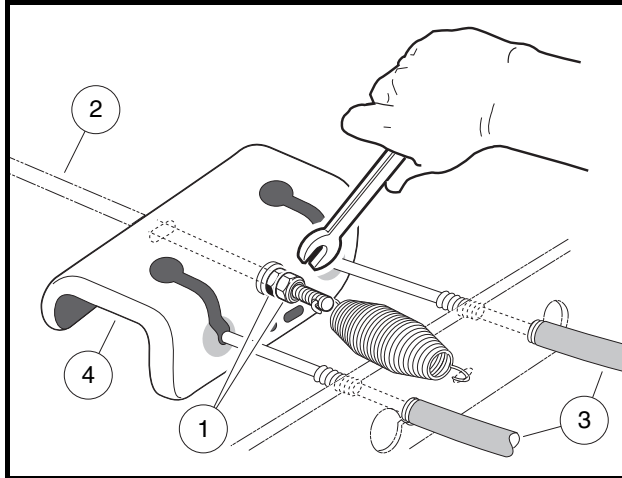

Figure 6-38 Loosen Equalizer Nut
2. Release park brake if latched and loosen equalizer retaining nuts (1) on equalizer rod (2) to slightly loosen brake cables (3) (**Figure 6-38, Page 6-23**).
1. Place the cable ends in the equalizer (4) (**Figure 6-38, Page 6-23**). Route cables through hangers in the same manner as the ones removed.